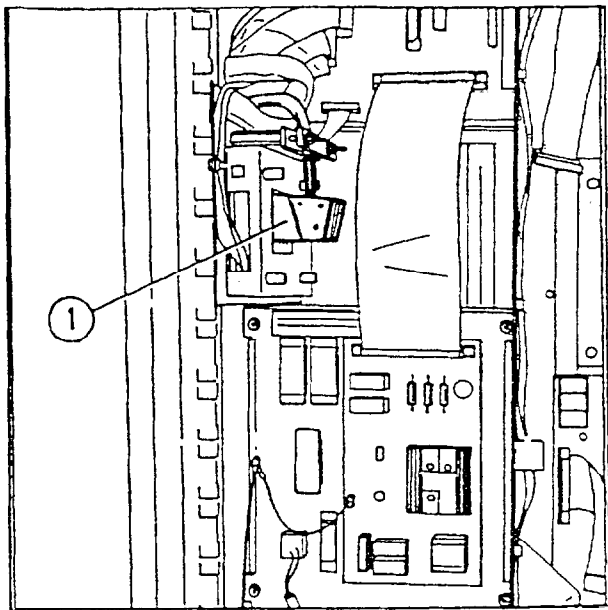

Fig. 2
- On M46, connect the IONTOMAT detector connector A (1/Fig.2).